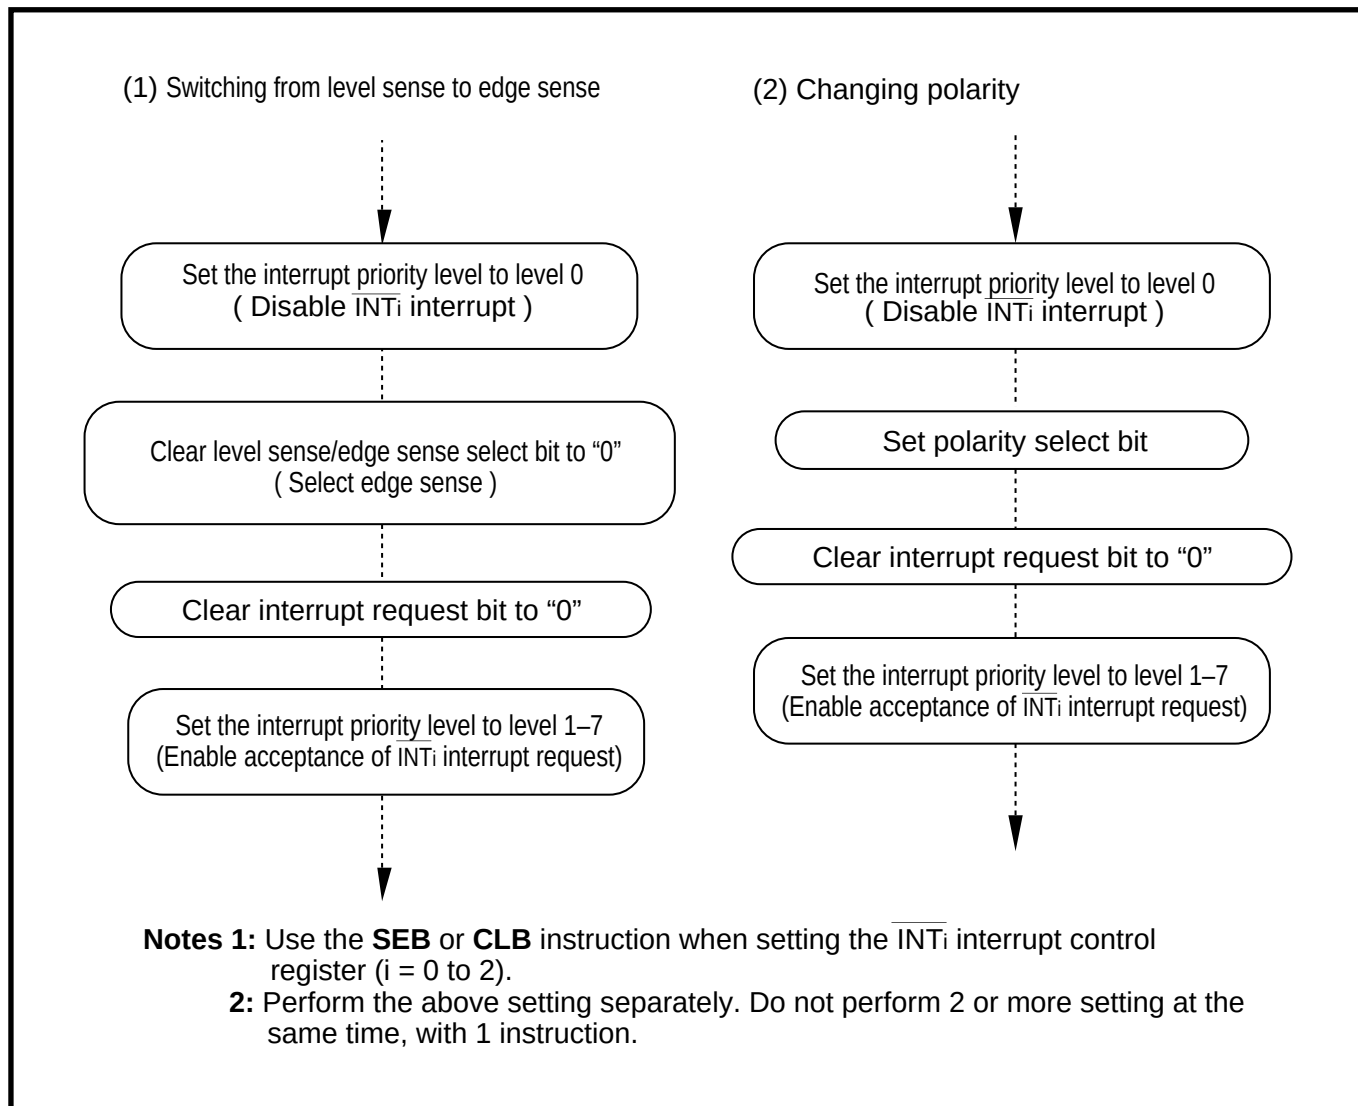

Fig. 4.10.5 Switching flow of occurrence factor of INT_i interrupt request
To switch the occurrence factor of $\overline{\text{INT}}_i$ interrupt request from the level sense to the edge sense, set the $\overline{\text{INT}}_i$ interrupt control register in the sequence shown in Figure 4.10.5 (1). To change the polarity, set the $\overline{\text{INT}}_i$ interrupt control register in the sequence shown in Figure 4.10.5 (2).